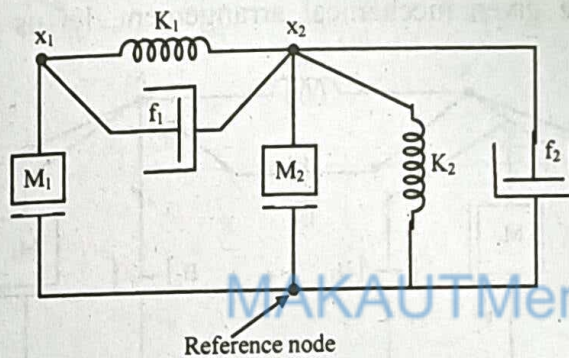

Fig: 1(a)
To get the mechanical network [fig. 1(a)],
Step 5: F is applied to M . With this information mechanical network is drawn as shown in figure 1(a).